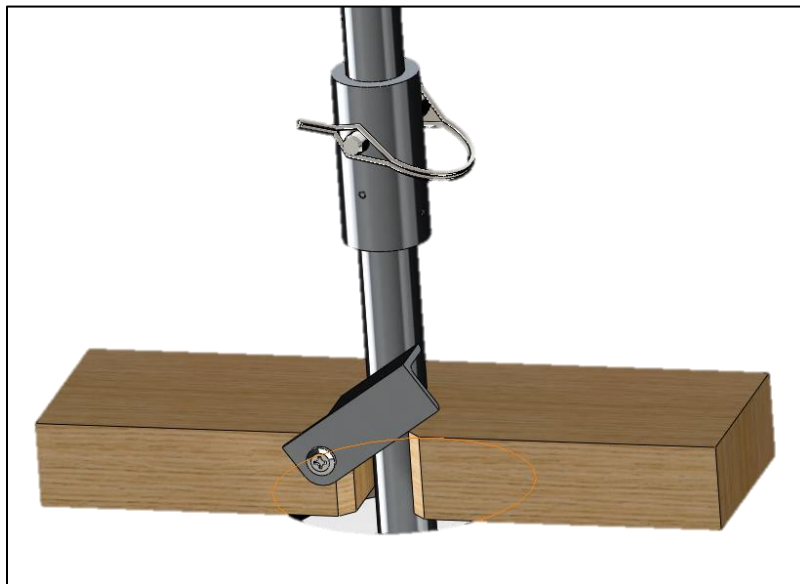

Figure 4: Extension Support
- 6.4.5.2 Slide the extension support (Figure 4) onto the stem just below the point the string will be broken and close its gate.